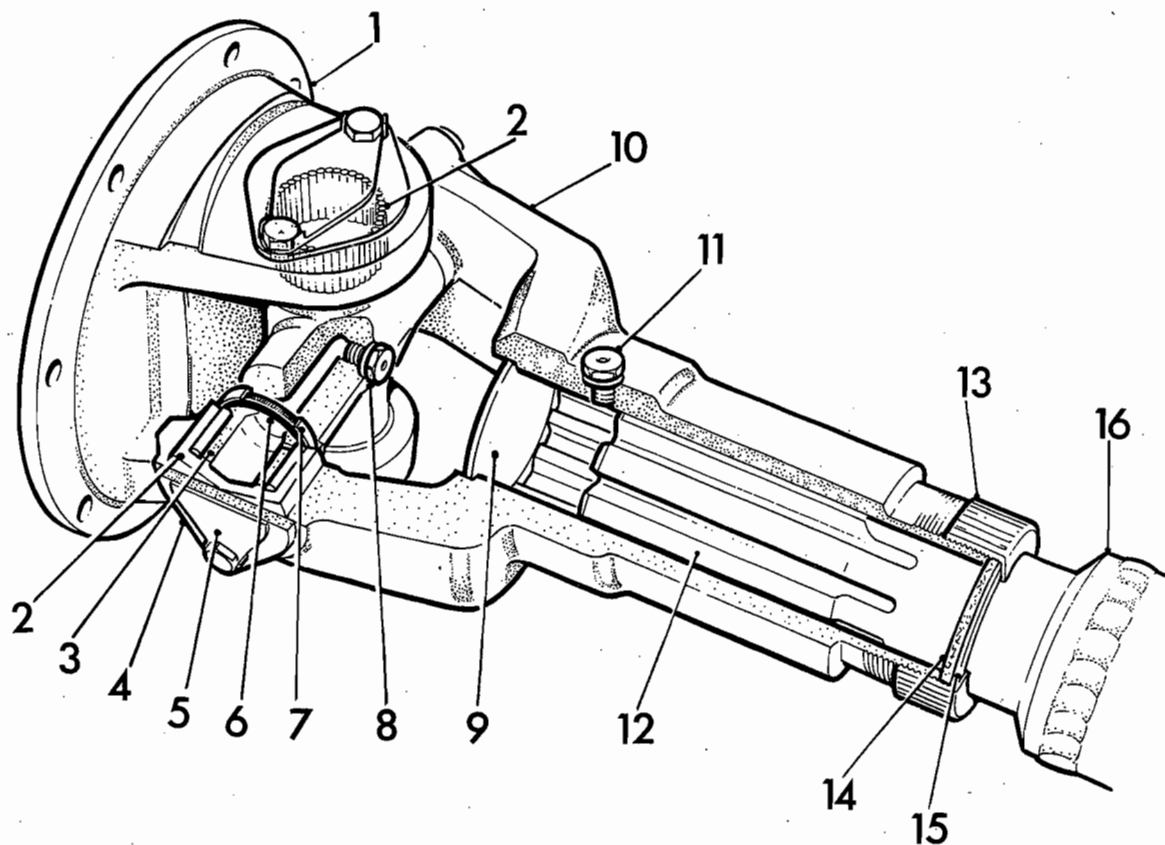

FIG. 2 SECTION THROUGH TYPICAL UNIVERSAL JOINT
#### TO REMOVE AND REFIT (Figs. 2 and 3)
3. Lubricate needle roller bearings (2) Figs. 2 and 3, until grease emerges from all four seals.
Key to Figs. 2 and 3